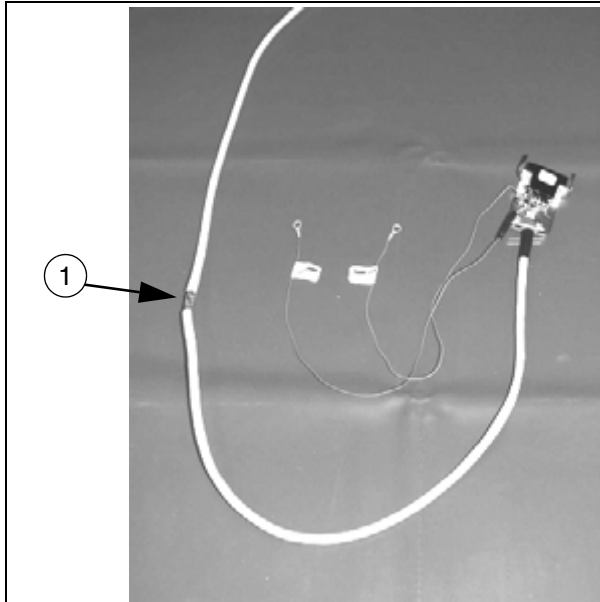
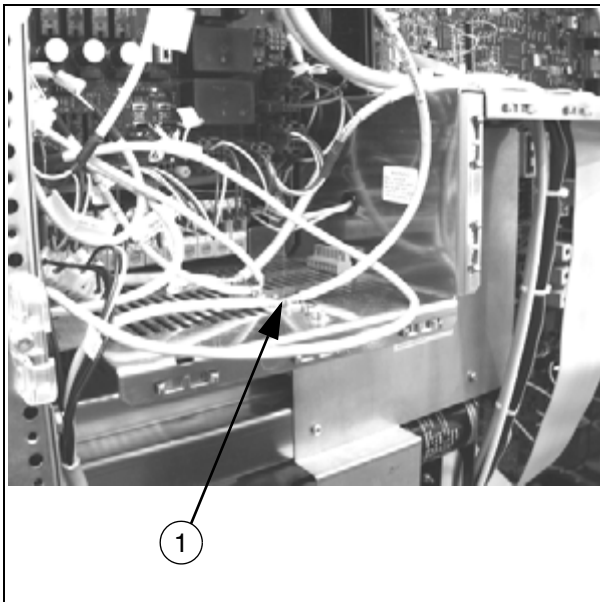

Fig. 4:
Fig. 5:
- Connect the external shielding of the adapter cable (Fig. 4 / p. 8) to housing ground (Fig. 5 / p. 8) of the POLYDOROS SX65/80 (below the D160).